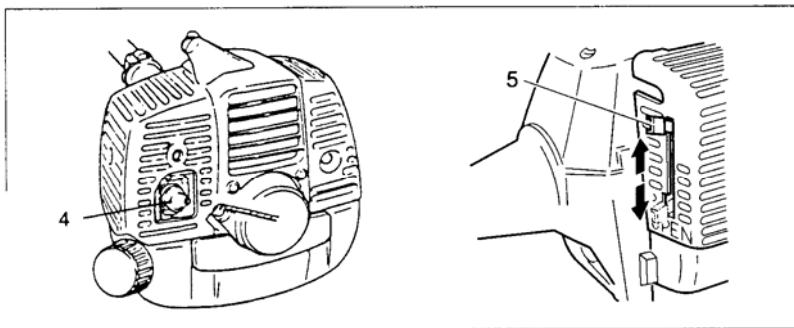

Fig. 2-2C
*Push priming bulb (4) several times so that fuel flows through return pipe (5) (if so equipped)(Fig. 2-2C,3)
2. With the safety trigger (2) pressed (if so equipped), pull throttle trigger and push throttle lock (3), then slowly release the throttle trigger first, then the safety trigger. This will lock the throttle in the starting position.
3. Set choke lever to CLOSED position (4). (Fig. 2-2C,3)